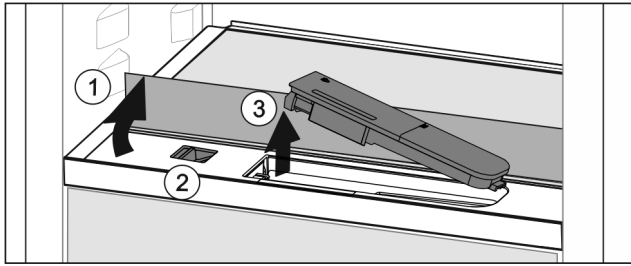

Fig. 148
- ▶ Lift the glass panel and fold towards the rear until it clicks into place Fig. 148 (1).
- ▶ Slide the slider Fig. 148 (2) to the left.
- ▶ Remove the water tank Fig. 148 (3).